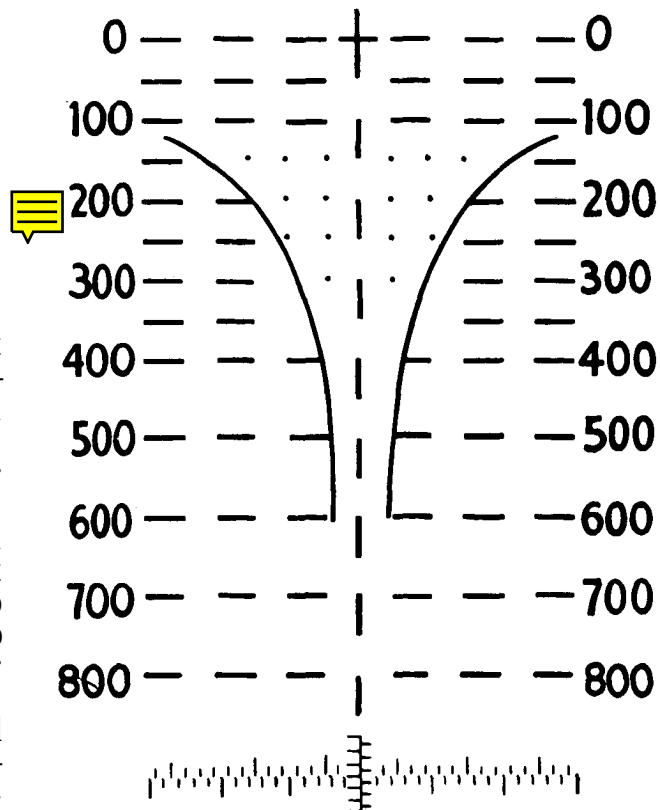

Figure 3. Sight reticle, M103 sight.
a. The M103 telescope has a fixed-focus, 3-power magnification, and a field of view of  $10^\circ$  (fig. 3).
b. The reticle is an optical glass disc with an 0.749-inch aperture etched with a metric scale. It is graduated at 50-meter intervals at ranges up to 800 meters, and numbered every 100 meters up to 800 meters. Lead lines are provided at 50-meter intervals up to 400 meters and at 100-meter intervals between 400 and 800 meters. The top vertical line is extended through the 0 line to form a bore-sight cross. Lead lines and spaces, each representing 5 mils, are provided horizontally for 30 mils on either side of the vertical centerline. Sixty 1-mil spaces along the 800-meter range line and twelve 1-mil spaces along the vertical axis are provided for small adjustments to the line of fire. Stadia lines are provided for ranging on targets having a 10- or 20-foot dimension. A level vial at the bottom of the reticle provides a zero cant reference for the telescope so that it may be kept level (fig. 3).